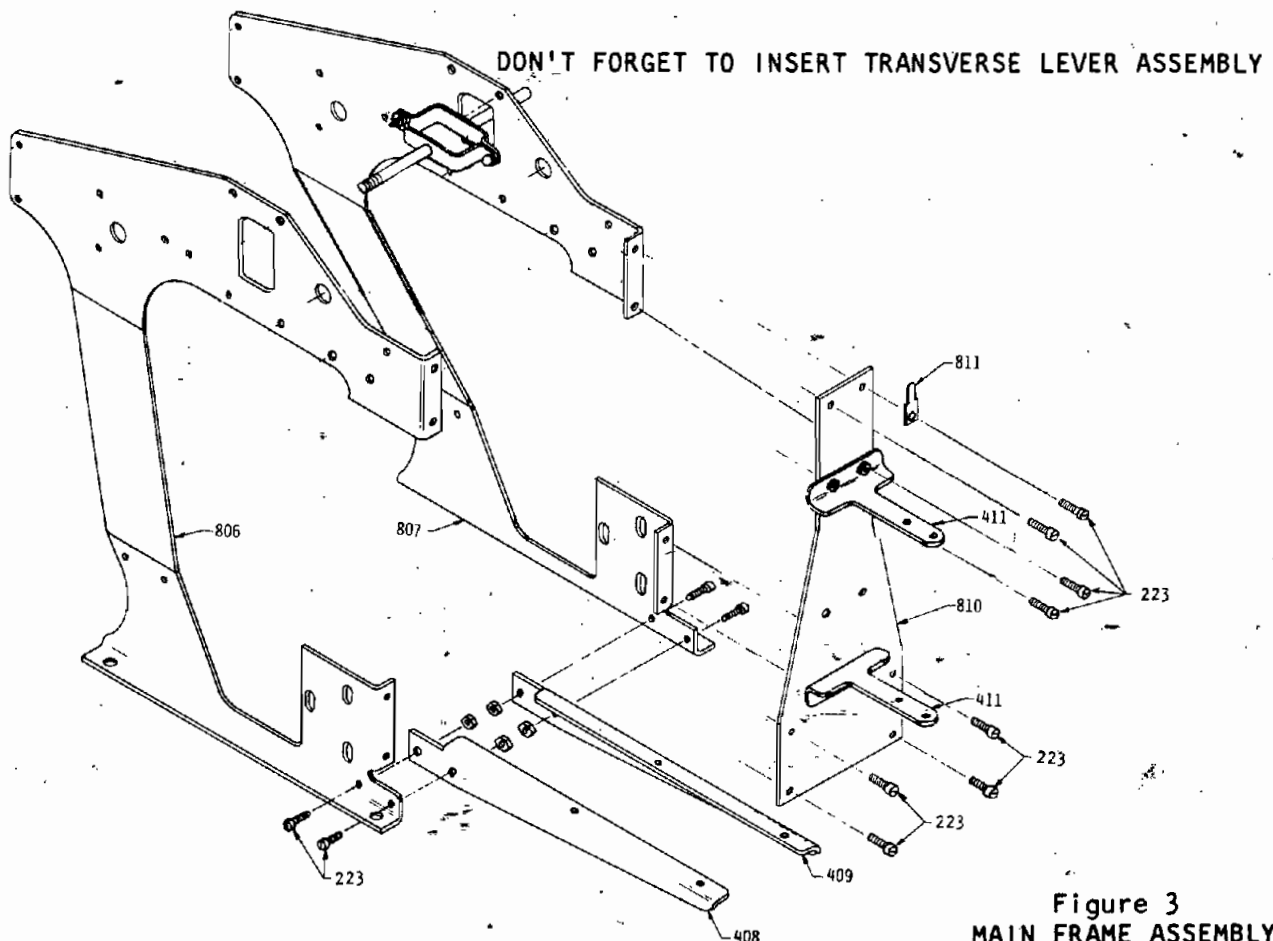

Figure 3
**STEP 3** MAIN FRAME ASSEMBLY - see Figure 3
- A. Fasten Front Stay Right #408 to Right Side Frame #806 using two pan hd. screws #223 and two locking nuts #243. Check that everything is square. Tighten securely. See Figure 3.
- B. Repeat (A) using Front Stay #409 and Left Side Frame #807.
- C. Fasten Front Frame Plate #810, Canopy Mounting Post #811 and Top Servo Mount Stay #411 to left and right frame assemblies using eight pan hd. screws #223 and eight locking nuts #243. Assemble, but do not fully tighten nuts at this stage. See Figure 3.
- D. Place Transverse Lever Assembly from STEP #1 between side frames, arms extending through rectangular holes in upper part of side frames. Threaded pitch shaft should be on the right (starboard) side of the helicopter. See Figure 3.
- F. Fasten Lower Servo Mount Stay #411 to Front Plate #810 as shown in Figure 3.